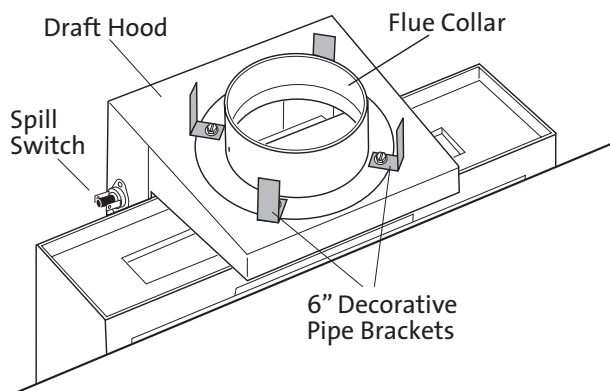

Figure 27. Decorative pipe attachment.
1. Remove the four 1/4" hex head screws that attach the 4" Flue Collar to the draft hood, but do not remove the Flue Collar. See Figure 27.
**NOTE:** This appliance is equipped with a Spill Switch which will disable the burner in the event that the vent system becomes blocked. Located on the side of the Draft Hood, at the back of the stove, the switch has a reset button that, when pressed, will re-enable burner function. See Fig. 27.